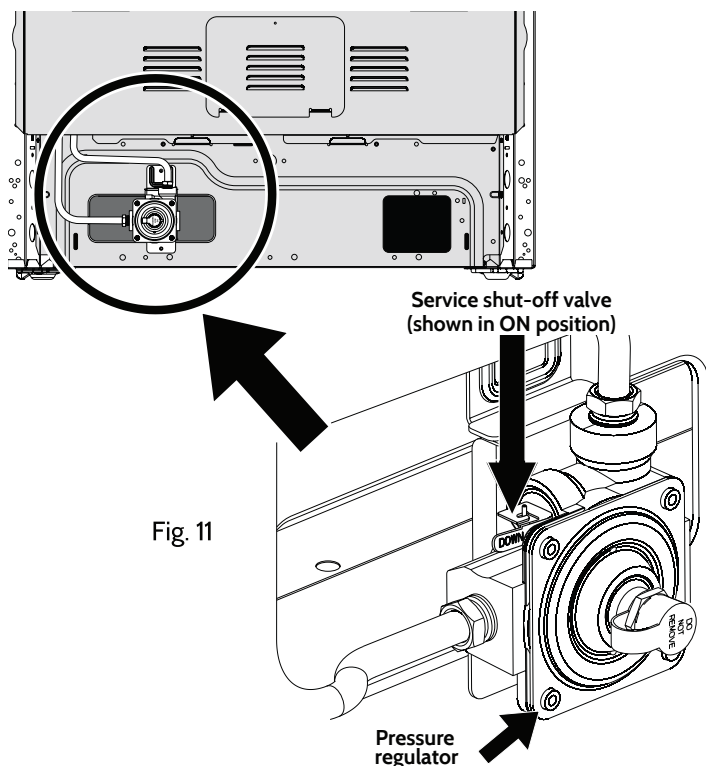

Fig. 11
- e. Make sure the **service shut-off valve on pressure regulator (if provided)** is set to the **ON** position (See Fig. 11).